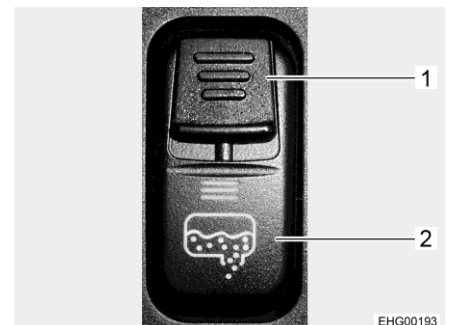

Fig. 162 Rocker switch (drain cock)
The drain cock for the waste water tank is opened and closed using a rocker switch of the switch panel in the driver's cabin. To prevent an unwanted opening of the drain cock, the rocker switch is provided with a safety slide button (Fig. 162,1). The drain pipe with a connection for a waste water hose is located under the vehicle.
- Push the safety slide button (Fig. 162,1) on the rocker switch (Fig. 162,2) downwards and, at the same time, press the lower part of the rocker switch. Doing this, the waste water valve is opened and the waste water tank is emptied. The LED is lit as long as the waste water tap is open.
- Close the drain cock again once all of the waste water has run out. In order to do this, push the operating switch (Fig. 162,1) upwards.